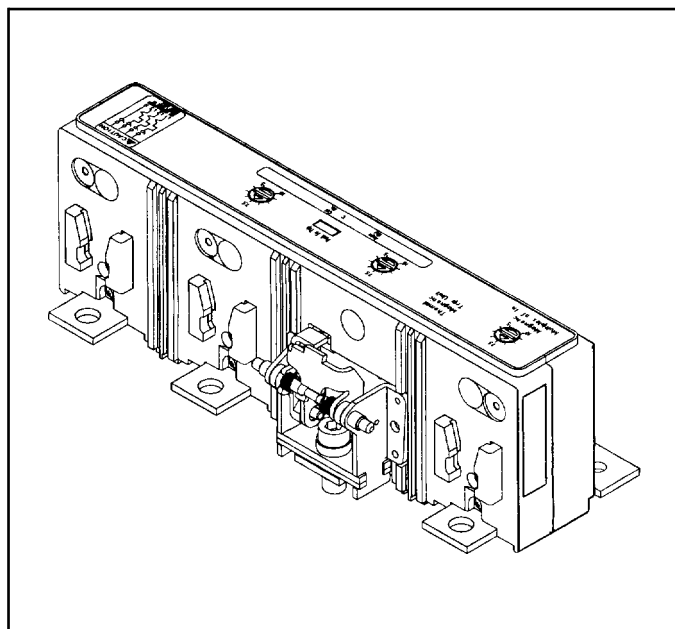

Fig. 1-2 Four-Pole LT Trip Unit with Unprotected Neutral.
**Four-Pole Trip Unit:** On UL listed four-pole trip units for use in LD, HLD, and LDC Frames the far right pole of a four-pole circuit breaker is for neutral connection only. There is no overcurrent protection in this pole (see Fig. 1-2). On the four-pole trips units for use in LW, HLW and LWC Frames the far left pole is for neutral connection only. Two versions are available, one type with 60% of  $I_n$  protection and one type with no overcurrent protection. See tables 1-1 and 1-2.